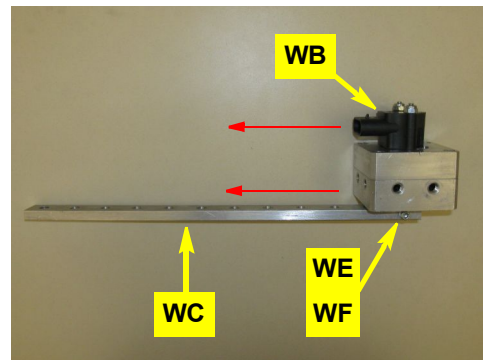

Figure 1c: Attached WAS arm
- c. Using hardware **WE** (nut) and **WF** (screw), attach the WAS arm **WC** to the WAS assembly. Mount the arm in the same direction as the WAS wire connector **WB** (Figure 1c).